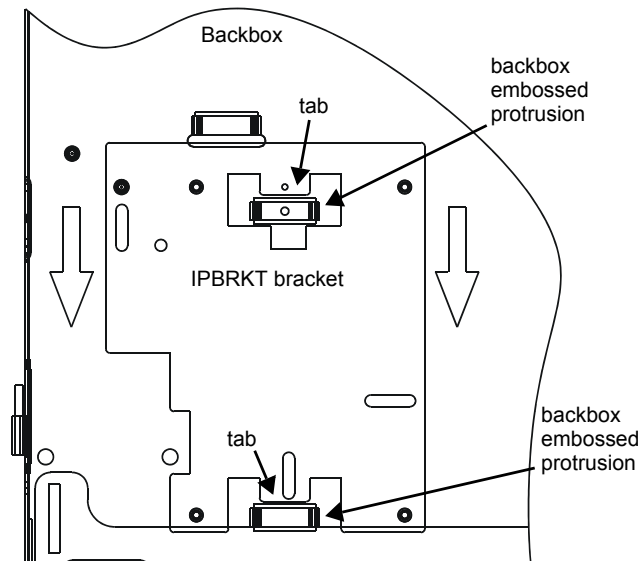

Figure 1 IPBRKT Installation
1. Position the two tabs in the IPBRKT bracket over the two embossed protrusions in lower left corner of the backbox and slide the bracket down with tabs going under embossed protrusions as illustrated in Figure 1.